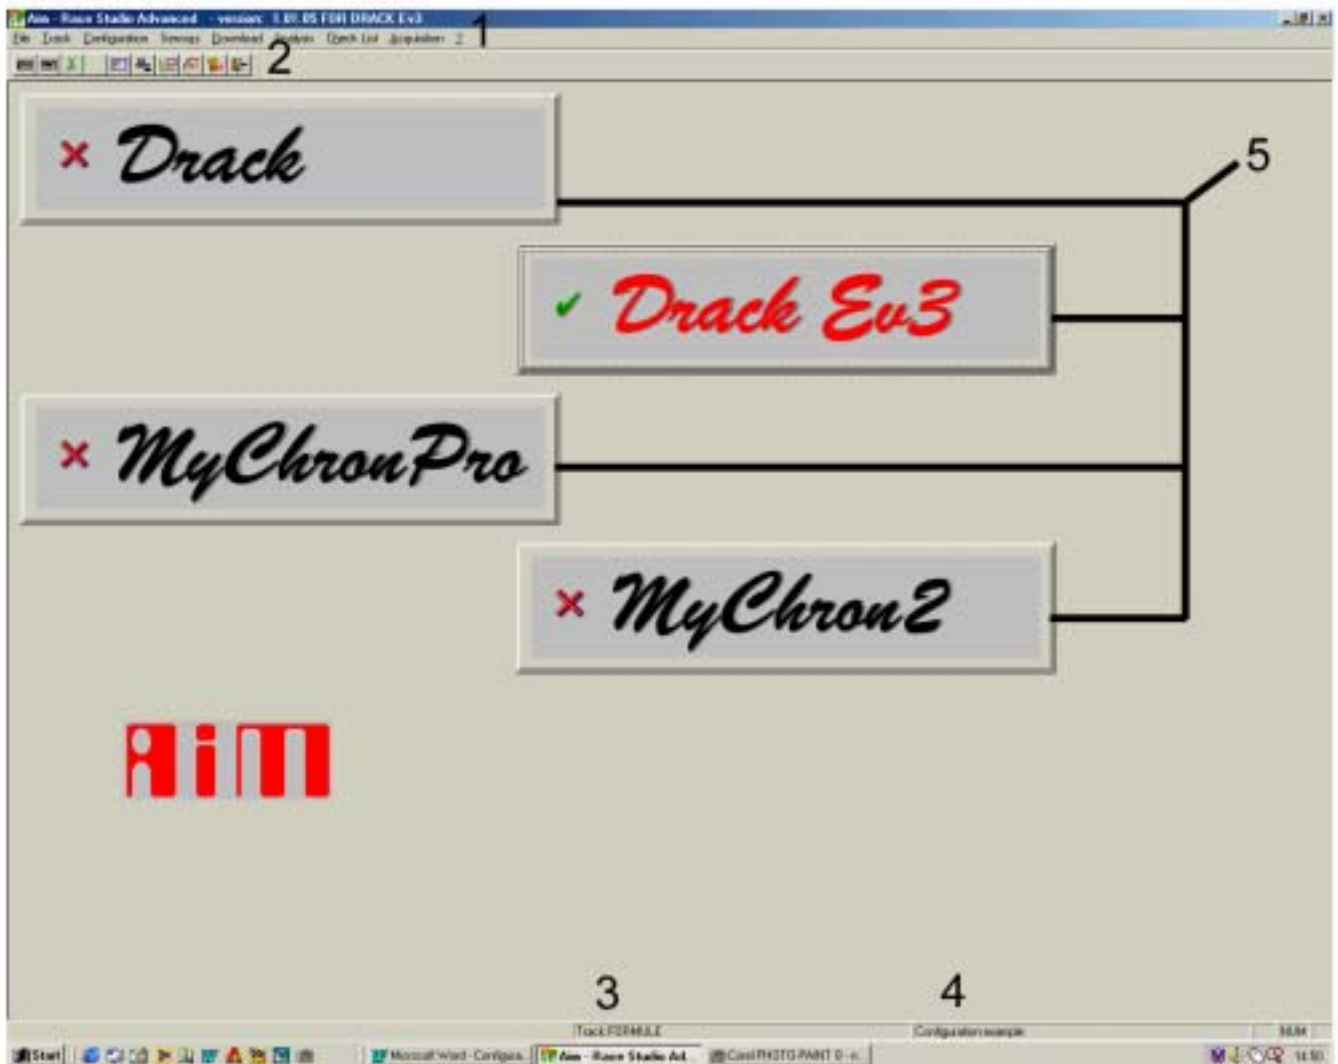

Fig. 2.2 – Main window
The main window is the first window shown when the program is run. In Fig. 2.2 the default main window for a video resolution bigger than 800x600 is displayed.
- (1) – The menu includes the main commands of the program.
- (2) – The toolbar of the window includes some shortcuts to the most important functions.
- (3) – The name of the active Track shown on the status bar.
- (4) – The name of the active Configuration shown on the status bar.
- (5) – The four “big” buttons for the selection of the connected device, in Fig. 2.2 the Drack EV3 is the selected device and it is displayed red.
There are two configurations in the Drack EV3 system: one loaded on the personal computer and another one into the data logger. If on the Personal Computer a single configuration is used the two configurations have to be always the same. If multiple configurations are used it is very important that, when the loaded configuration on the personal computer is sent to the data logger, “Configuration-Transmission to the logger ” (F9) command, it is the one you would like to send. Check its name on the status bar of the application (see Fig. 2.2).
Fig. 2.2 load configuration
Running this command it is possible to select the active configuration. The active configuration is the one edited with the “Configuration-Input channels” command and transmitted to the logger with the “Configuration-Logger transmit” command. The name of the loaded configuration is shown in the status bar of the application, see Fig. 2.2.